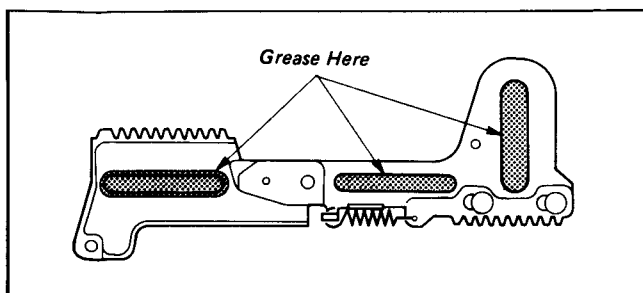

Fig. 8-32.
- 1) Grease the parts. (See Fig. 8-32.)